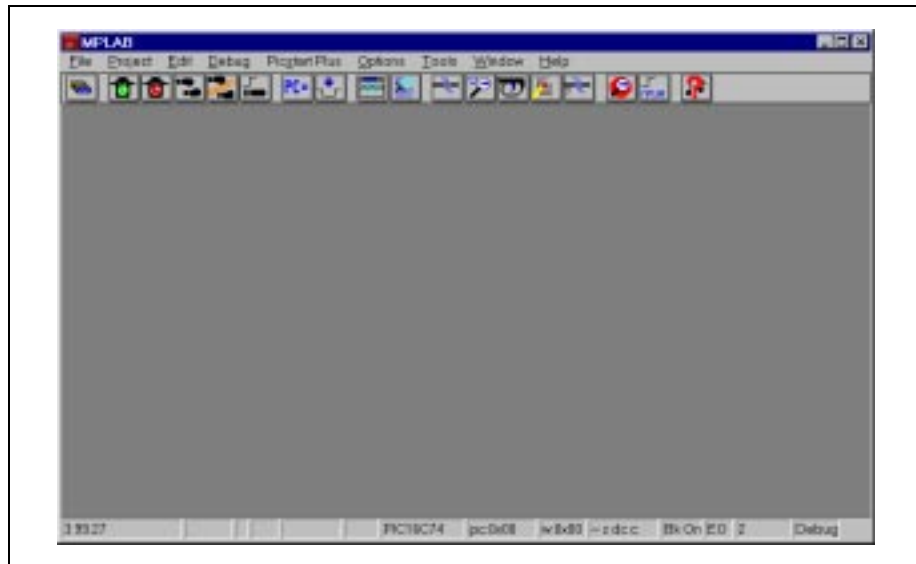

Figure 2.3: MPLAB Desktop
6. The install program will now commence to install MPLAB on your computer. After the installation, execute MPLAB.EXE or click on the MPLAB icon to start up the system. You will see MPLAB's desktop as in Figure 2.3.